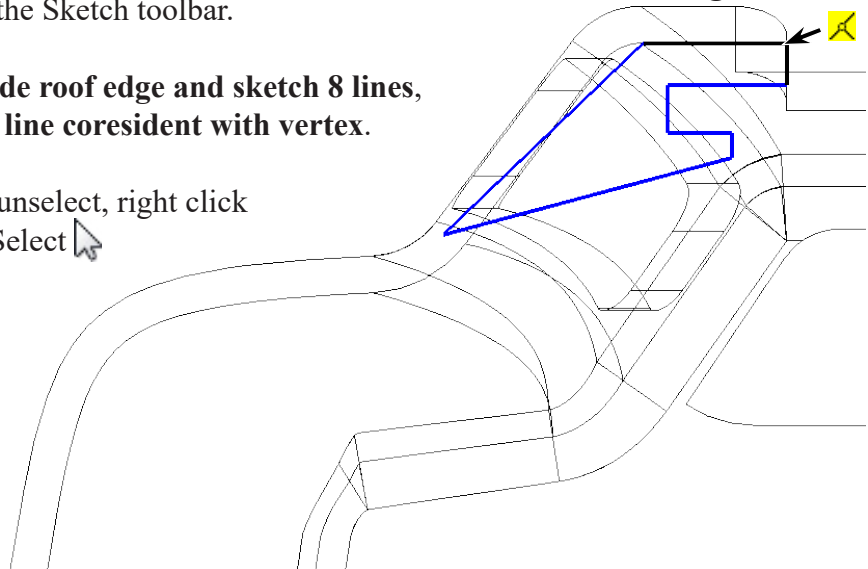

Fig. 101
Step 5. Click **Line**  (L) on the Sketch toolbar.
Step 6. Start at the **top rear inside roof edge** and sketch 8 lines, **Fig. 101**. **Rear vertical line** coresident with vertex.